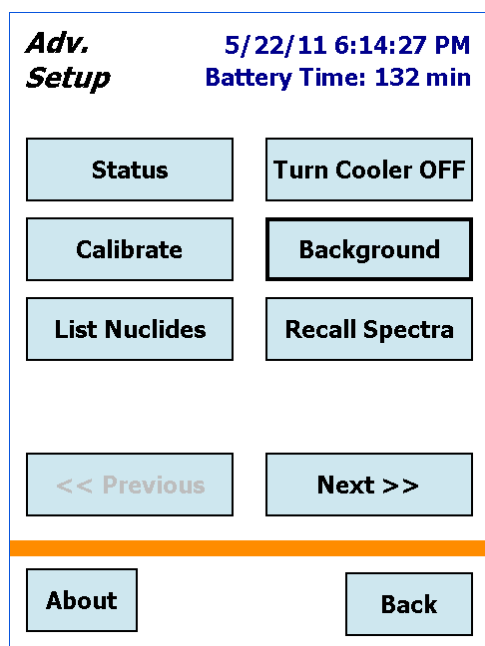
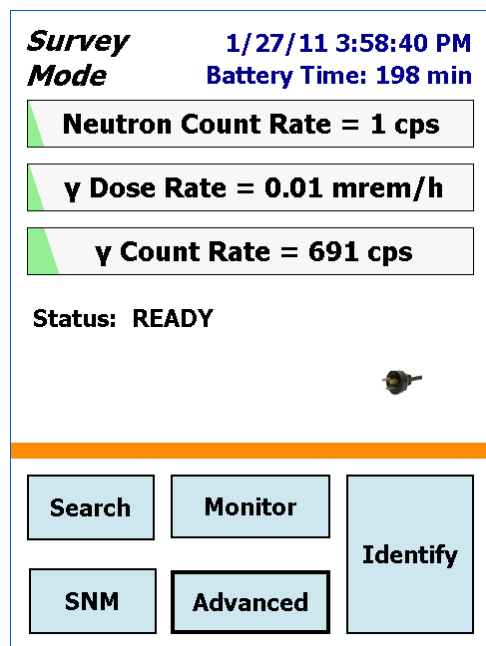

Figure 11. On the Advanced Menu, Tap the Calibrate Button.
Figure 17. The Survey Mode Screen.
- **Instrument Status Area** — The center of the Survey Mode screen provides brief indicator's of the unit's readiness for data acquisition. The Status is either **READY** (Fig. 17) or **Cooling**. In addition, warnings such as the high gamma dose rate message are posted in this part of the screen.
- To return to the preceding dialog, tap **Back**. For example, tapping **Back** from the Advanced Setup dialog (Fig. 11 on page 20) returns you to the Survey Mode screen (Fig. 17).
- On the Survey Mode screen, tap **Advanced** (see Fig. 11), then **Calibrate**.
In Survey Mode (Fig. 17), the Detective behaves as a passive monitor, showing the current gamma count and dose rate; neutron count rate (for units so equipped); instrument status; detector dead time, available disk storage space and battery charge; time and date; and GPS coordinates.
- To end this search and return to the Survey Mode (Fig. 17), tap **Back**. (The current search data will be lost.)